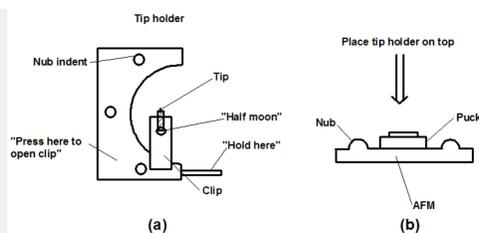

Figure 9.2.9 Schematic view of (a) the tip holder and (b) the tip holder location in the AFM.
2. Carefully place the tip holder onto the three nubs to gently hold it in place. Bring the holder in at angle to avoid scraping it against the sample (Figure 9.2.9 b).